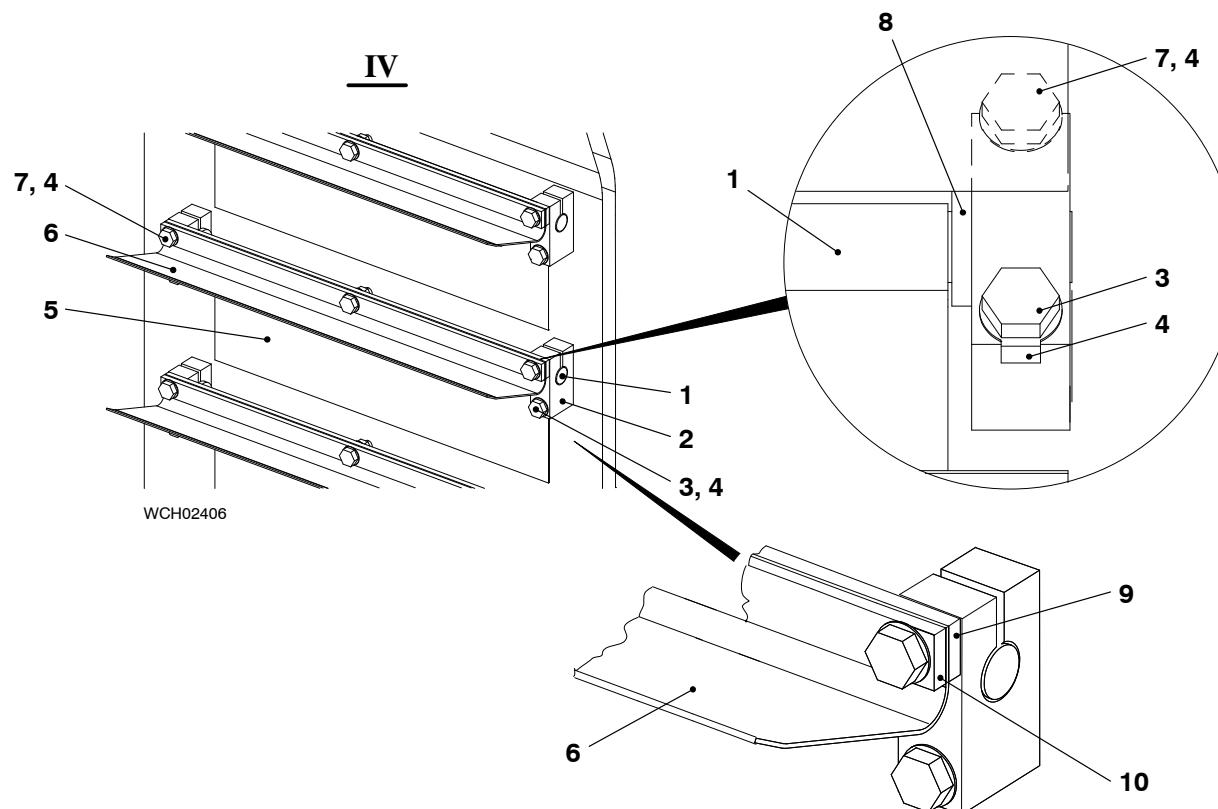

Fig. 3: Flaps
- 1) Remove the three screws (7, Fig. 3) and the tab washers (4).
- 3) Remove the screw (3) and the tab washer (4).
- 4) Remove the guide (2), distance ring (8), flap (5) and axle (1).